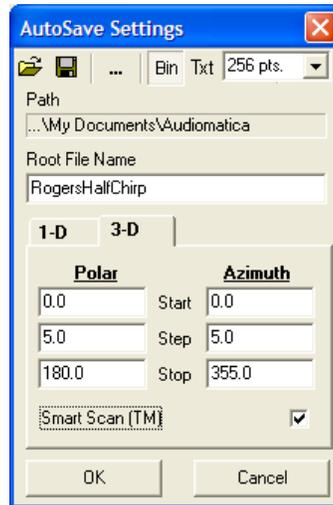

Figure 12.23
Let's start with setting the autosave function (see also 5.3). Pressing **Alt-F2** we recall the Autosave Setting dialog (fig.12.23); here we choose the 3D mode and input the desired file name ('RogersHalfChirp'), polar start (0), polar step (5), polar stop (180), azimuth start (0), azimuth step (5) and azimuth stop (355).